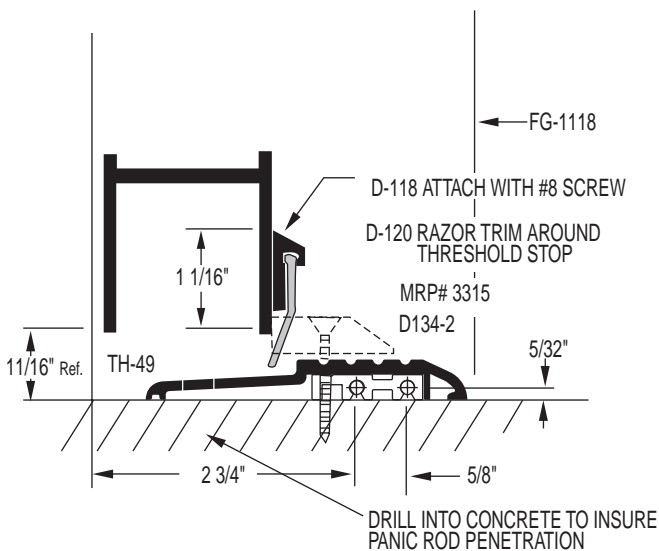

Figure 5
4. On both frame jambs drill two #29 (.136" dia.) holes in frame for #FS-256 screws and attach clips to frame (fig 5). Drill one #2 (.211" dia.) hole 1/2" in from each end of the threshold as shown in (fig. 2) and countersink for #12 FHSMS #FS-42. Attach threshold to clips.
5. For doors with concealed rod panics drill holes in threshold as shown in (fig. 6). Be sure to drill into condition below to allow rod to engage into threshold as shown in (fig. 5). Attach #3315 stop.